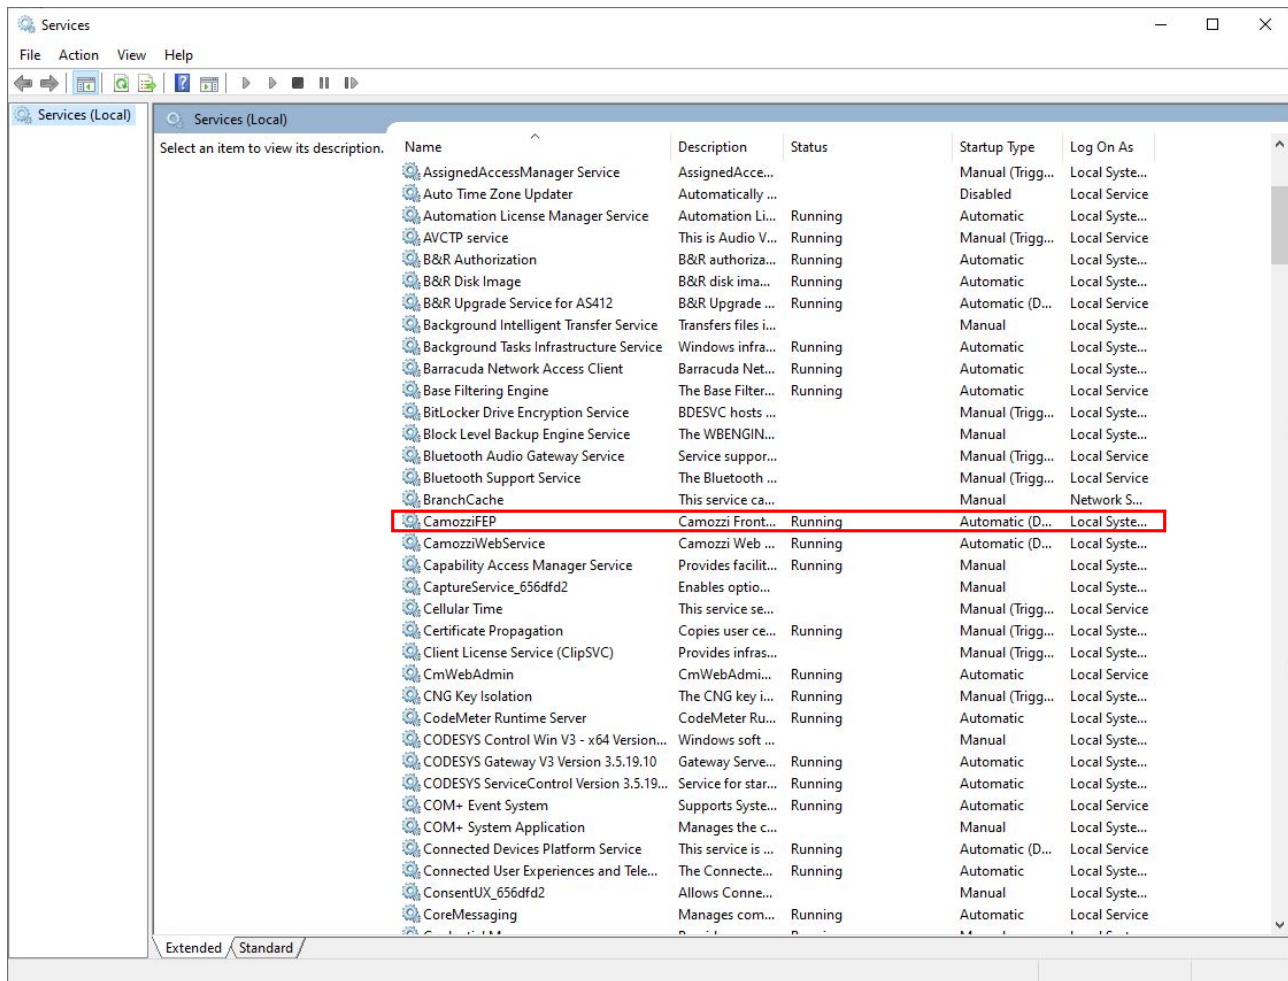

Figure 8.4: CamozziFEP Service
6. Access the services window and verify that the "CamoZZiFEP" status is running (Figure 8.4).
- ③ If the connection in the "Tcp Connections" section is not visible, access the services window and verify that the "CamoZZiFEP" status is running (Figure 8.4).
❷ FEP: If the connection is not present, access the services window and verify that the "CamoziFEP" status is running (Figure 8.4).